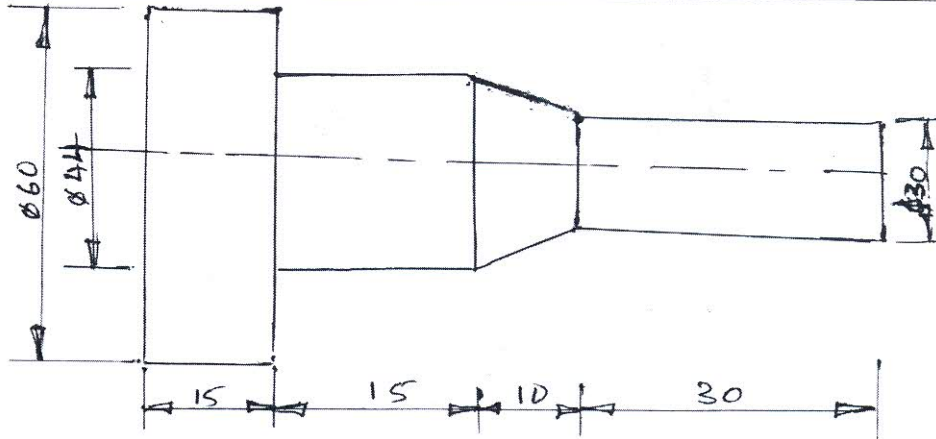

Fig.Q7(c)
- c. Write a turning centre part program for the part shown in Fig.Q7(c). Use one finish cut and rest rough cut to remove the material. Use the following information.